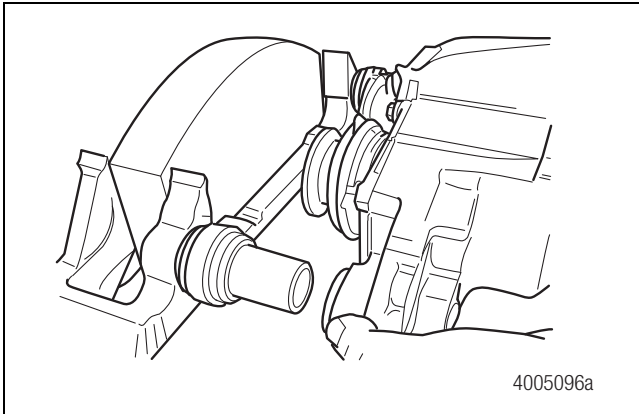

Figure 5.51
2. Carefully slide the housing assembly onto the slide pins. Be careful not to damage the slide pin boots when you install the housing assembly onto the slide pins. Figure 5.51.